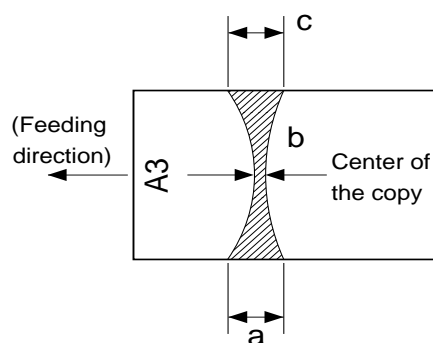

Figure 2-27
- 4) Measure the width of the area where toner is shiny (Figure 2-27).